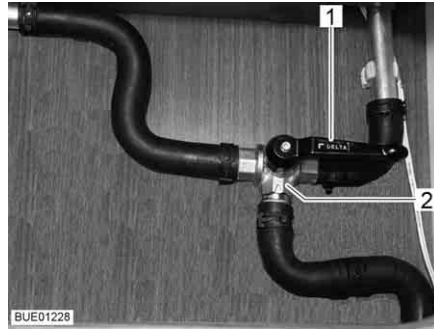

Fig. 146 3-way valve
- Set the lever (Fig. 146,1) of the 3-way valve (Fig. 146,2) parallel to the straight flow direction (Fig. 146).
- Set the lever (Fig. 146,1) of the 3-way valve (Fig. 146,2) transverse to the straight flow direction.